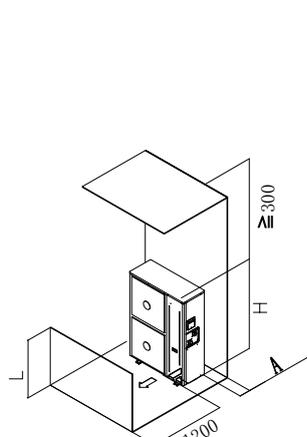

Figure 17
a. Single unit installation (see Figure 17)